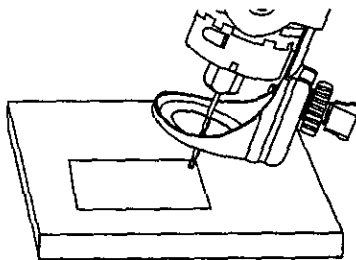

Fig. 6
5. Rest the edge of the cutting guide on the workpiece with the bit at an angle of about 45° (see Fig. 6).